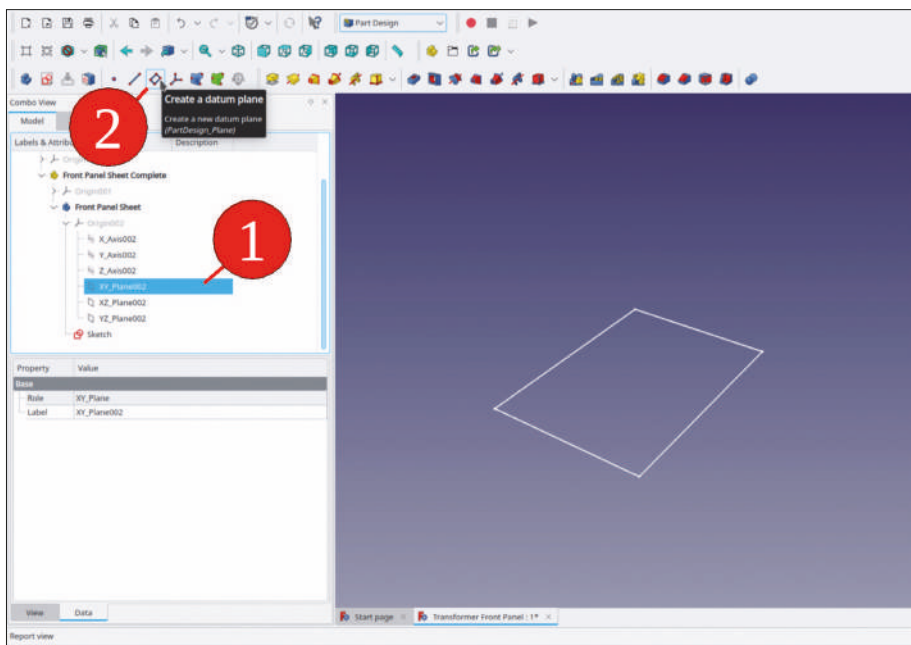

Figure 9-6
6. For the definition of the front panel top face, create a datum plane: In the tree view, expand the coordinate system of the body 'Front Panel Sheet' and mark the XY plane. Then, click the 'Create a datum plane' tool button (Figure 9-6).